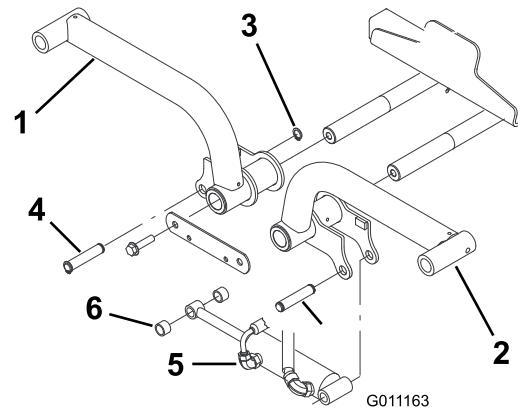

Figure 15
4. Insert the lift arms onto the lift arm pivot shafts (Figure 15), and secure each with a lift arm pivot shaft link and bolts previously removed.